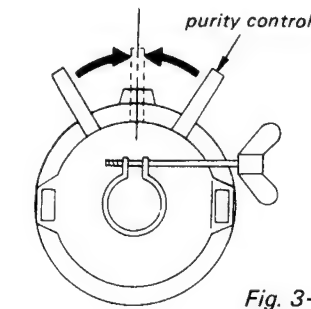

Fig. 3-2.
- Move the deflection yoke back, and adjust the purity control so that **R** is in the center and **G** and **B** are at the sides, evenly. (Figure 3-2.)